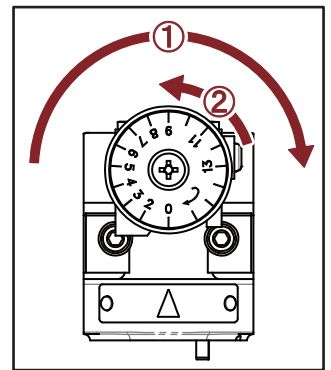

Fig. 4-4
1) Preset the scale of the positioning shelf. (Fig. 4-4)
- ① Turn it by clockwise to the end.
- ② Turn it by counterclockwise at "0".